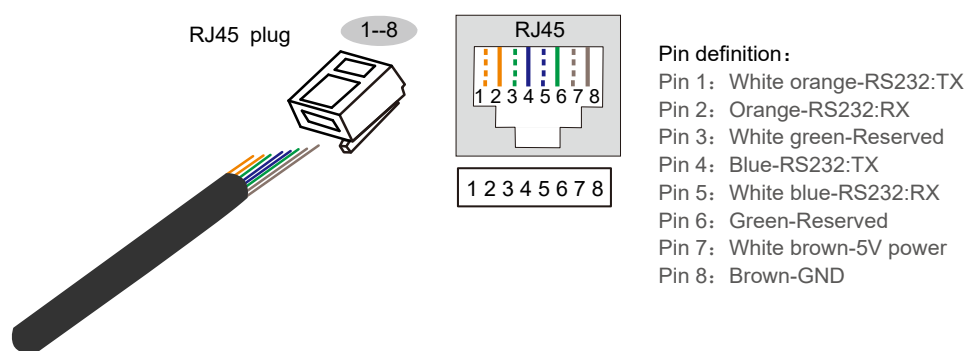

Figure2-15 Pin definition of the RS232 port
2. The RS232 port is used for RS232 communication, which is to achieve the external SNMP card communication. The RS232 port adopts the RJ45 plug. The pin definition of the RS232 port is shown in Figure2-15.